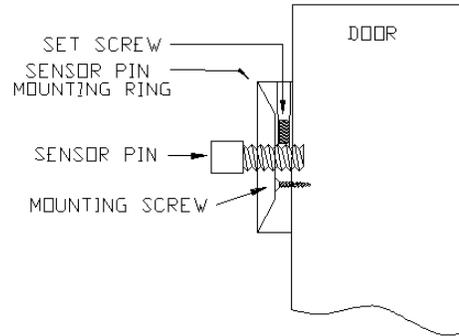

Figure 9.3 Adjusting the Lock Sensor pin
6. Be certain that the Set screw in the Sensor Ring is loose and will **not** make contact with the Sensor pin (Figure 9.3)